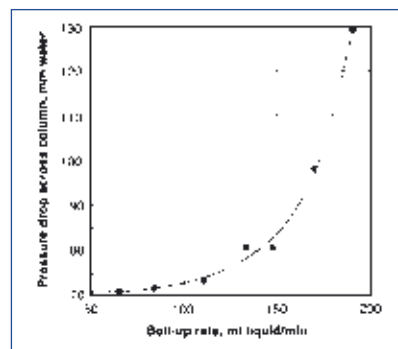

Fig. 1: Column pressure drop as a function of boil-up rate
- pressure drop across the column as a function of boil-up rate (Fig. 1)
Figs 1, 2, 3 and 4, above and Table 2, page 6: Results taken from Armfield UOP3CC Distillation Column in the Process Laboratories of the Department of Chemical Engineering, University of Aston, U.K. courtesy of Dr. J. D. Jenkins